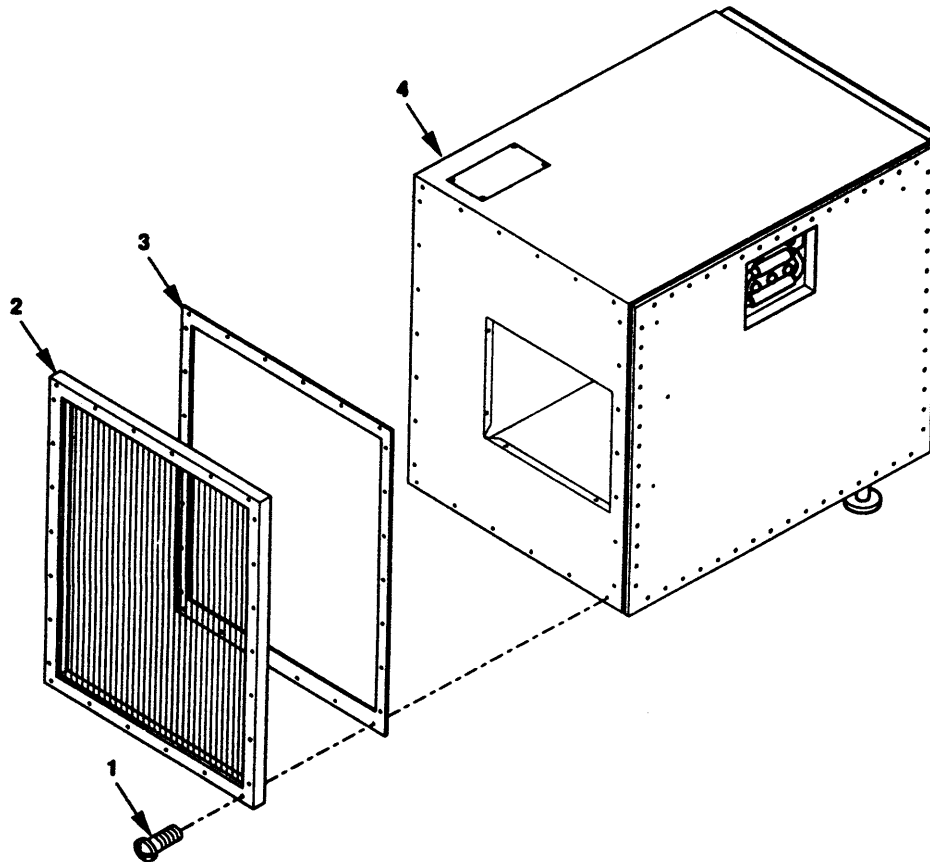

Figure 5-11. Rear (Air Discharge) Evaporator EMI/RFI Ventilation Panels.
- a. **Remove.** Remove 26 screws (Figure 5-11, 1) and evaporator EMI/RFI ventilation panel (2).
- (1) Inspect rear (air discharge) evaporator EMI/RFI ventilation panel (2) for hole(s) equivalent to two honey combs. or larger.
- (2) Inspect rear (air discharge) evaporator EMI/RFI ventilation panel (2) for deteriorated, damaged, or missing EMI gasket material (3).
- (3) Inspect all mounting hardware for damage.
- (4) Replace all damaged or defective components.